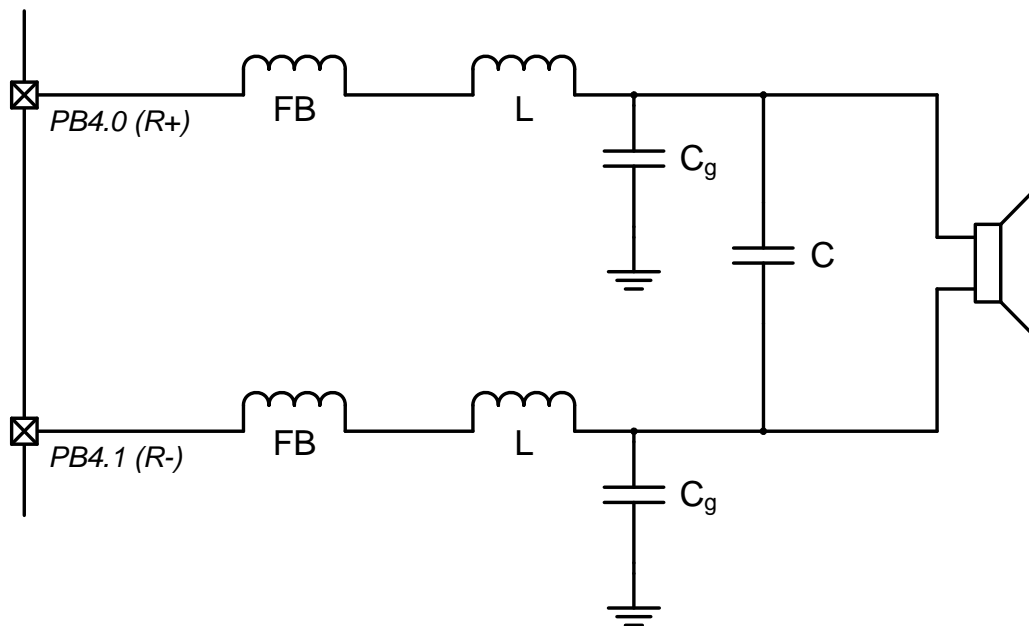
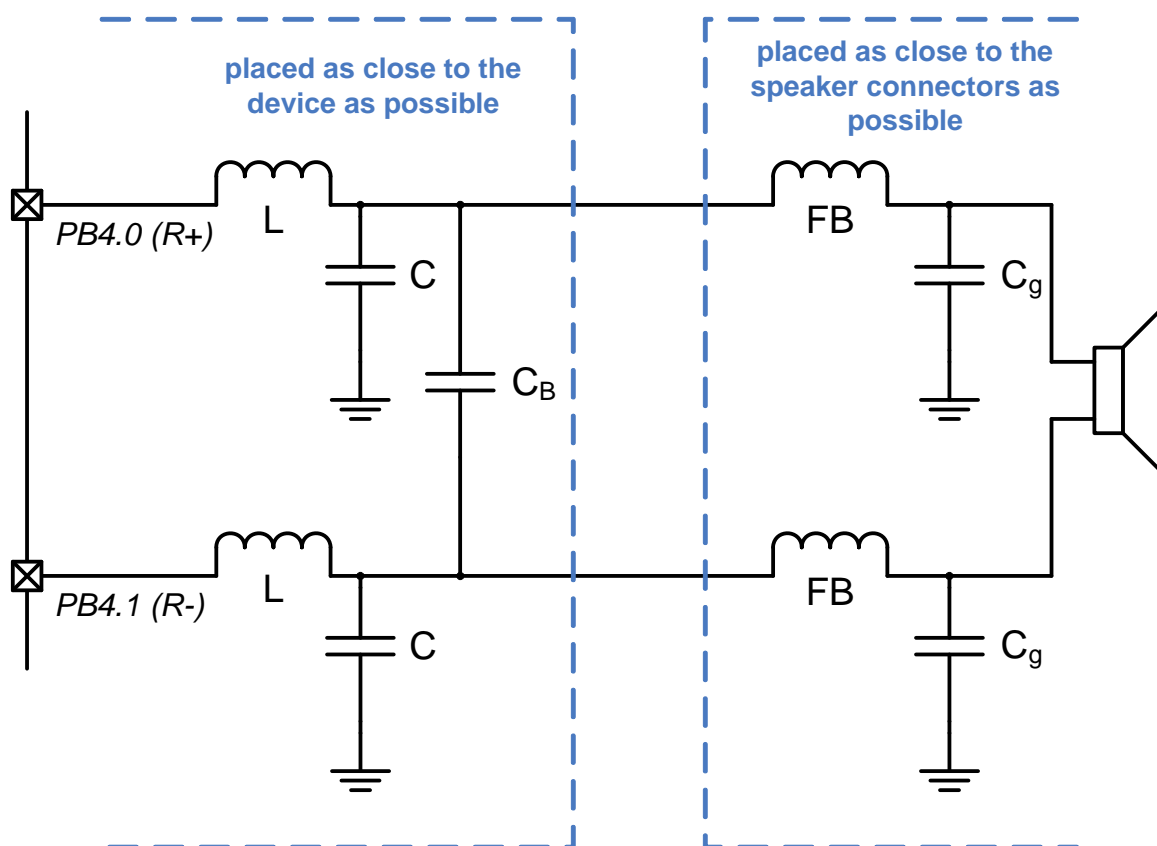

Figure 20. Revision 1.0 Hardware Class-D Output Network—Direct Drive
Figure 21. Alternate Class-D Output Network—Direct Drive
The full Class-D output network consists of ferrite beads, inductor-capacitor (LC) filters, and grounding capacitors (C_g). Figure 20 shows the output network configuration used by the Revision 1.0 hardware. An alternate output network shown in Figure 21 may provide better performance than the original configuration.
Figure 20 shows the output network configuration used by the Revision 1.0 hardware. An alternate output network shown in Figure 21 may provide better performance than the original configuration.